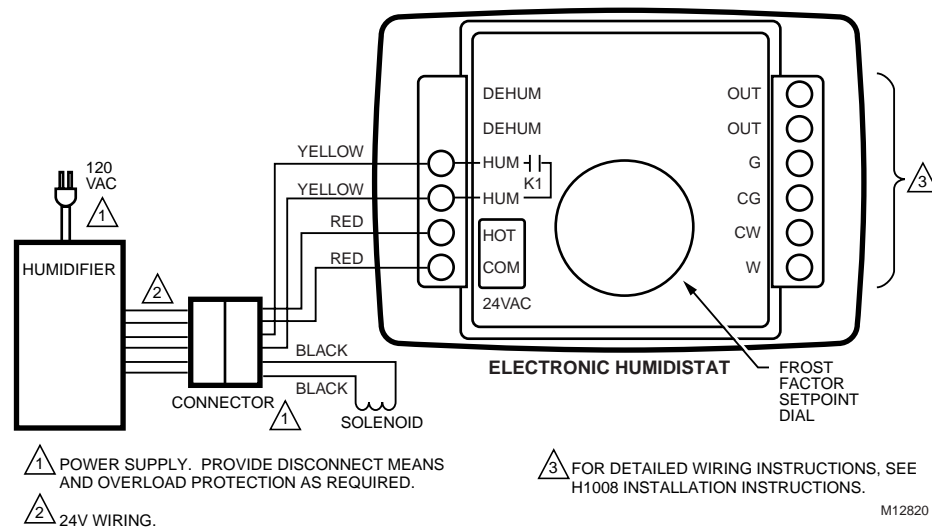

Fig. 8. Typical wiring diagram for humidifier using H1008A Automatic Humidity Control.
1. Connect the two red and the two yellow wires to the humidistat as shown in Fig. 8.